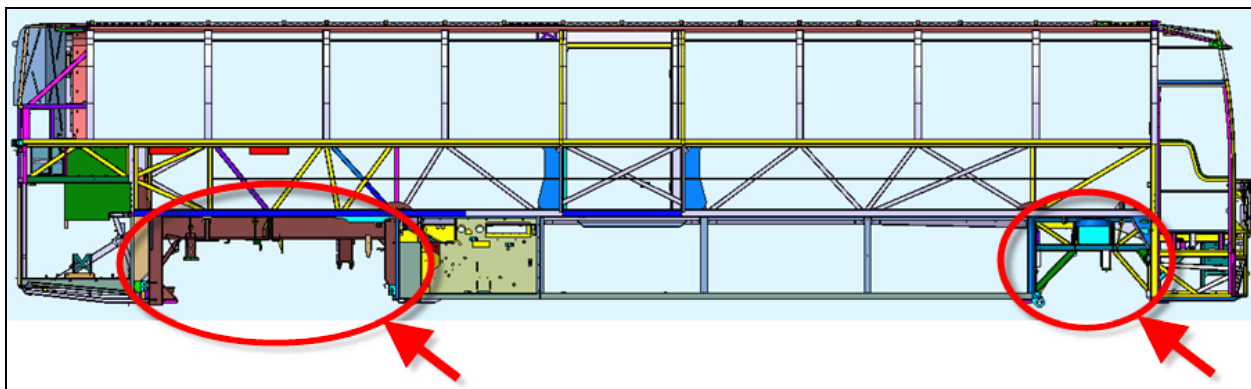

FIGURE 1 – CRITICAL AREAS: FRONT SUB-FRAME, REAR SUB-FRAME, DRIVE AXLE CRADLE AND TAG AXLE
**Front & rear sub-frames, drive axle cradle and tag axle** (FIGURE 1) on Prevost structures are made of high strength steel. Although the structure on a Prevost vehicle receives a beneficial corrosion preventive compound application at the end of the manufacturing process, after many years of service with exposure to harsh environments (winter, frequent rains, road salt, stone projection, sand accumulation, etc.), the carbon steel can be subject to severe corrosion. The use of high strength steel remains a requirement to withstand peak loads.